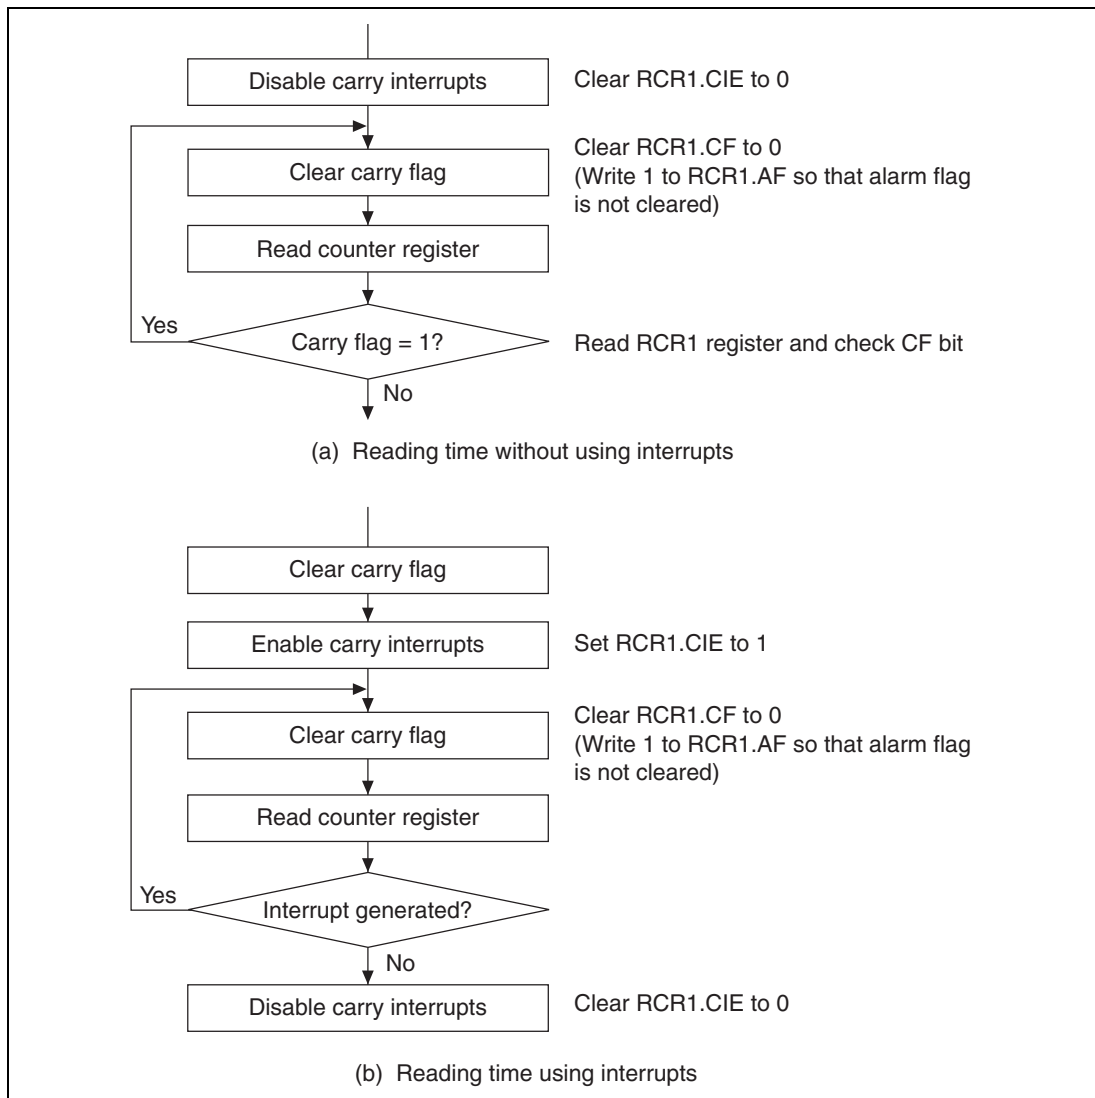

**Figure 11.3 Examples of Time Reading Procedures**
Figure 11.3 shows examples of the time reading procedures.
11.3 (a), and the procedure using carry interrupts in figure 11.3 (b). The method without using interrupts is normally used to keep the program simple.